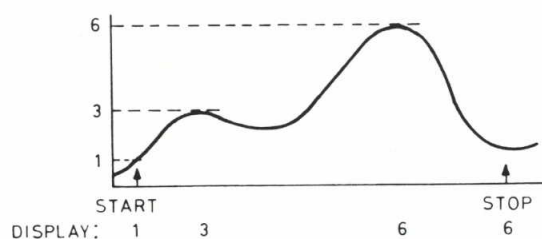

Fig. 19. $V^{\wedge}$ measurement in MAN or EXT START mode.
- External or manual starting and stopping of a measurement (fig. 19).